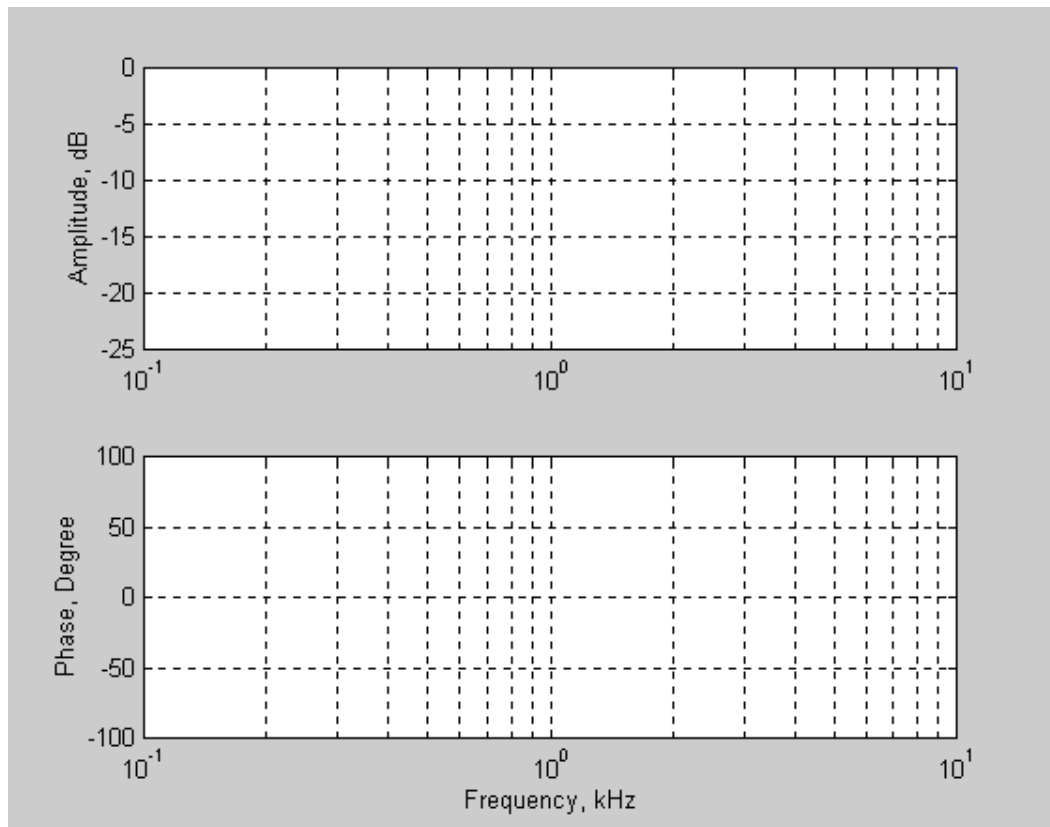

Fig. A.1: Frequency Response of the passive low-pass filter
7. Plot the data of Table A.1 on the semi-logarithmic scales of Fig. A.1. Connect the points with the best smooth continuous curve.